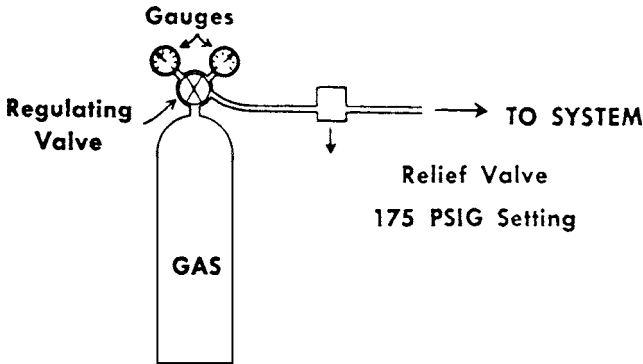

Figure 16-7 Pressurizing set-up for charging refrigeration systems.
- A system can be pressurized up to a *maximum* of 150 psig for leak testing or purging (see Fig. 16-7).